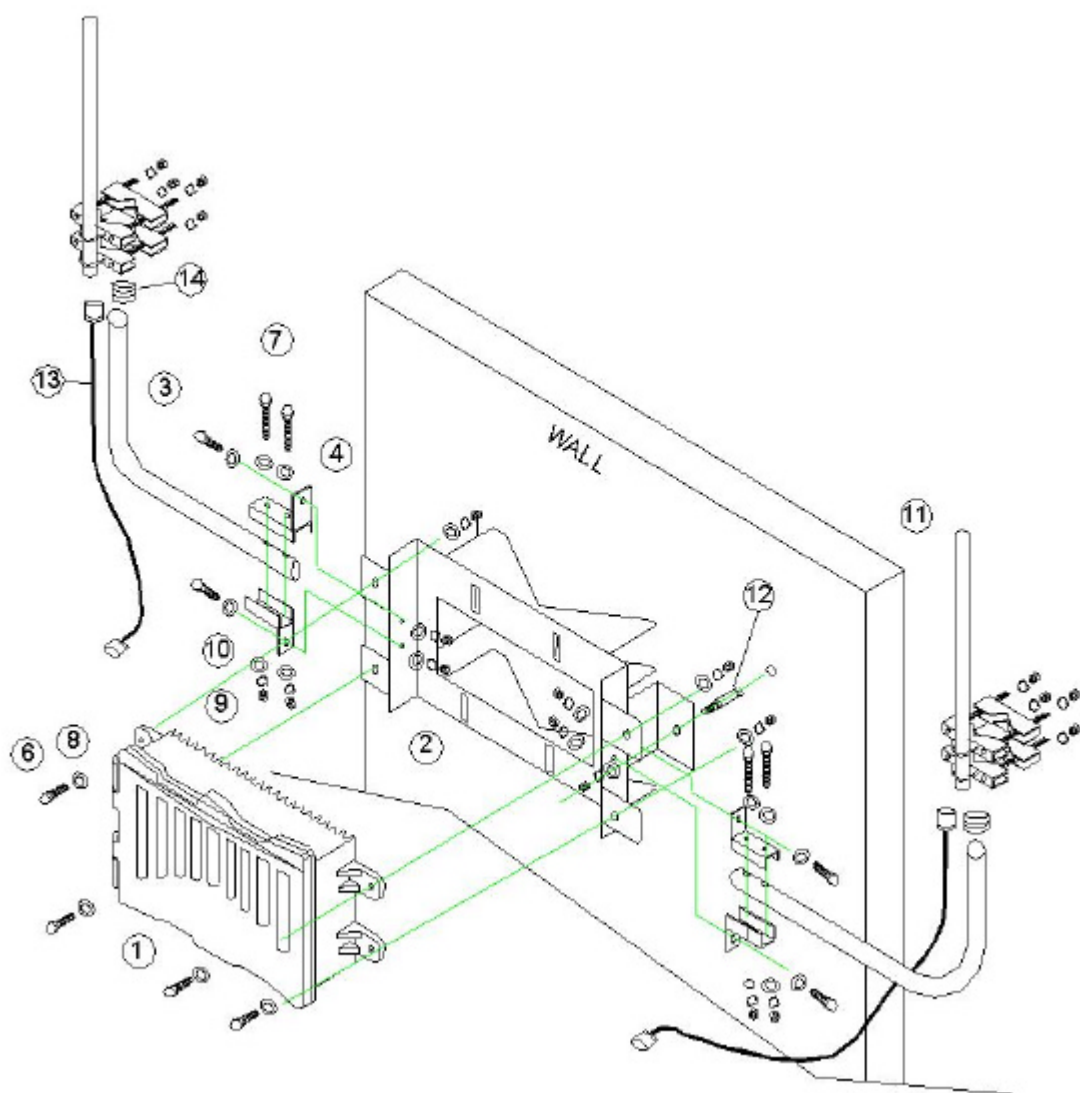

Figure. 5-2
According to figure 5-2, assemble components (3) and (4) for two sets (left and right) by M6*40 screws with grommet or spring grommet between the screw and screw nut using components (7), (8), (9), and (10).
According to figure 5-2, drill two holes on the wall by electrical driller with fitting size measured from the metal rack. Then fix the component (2) on the wall by component (12).